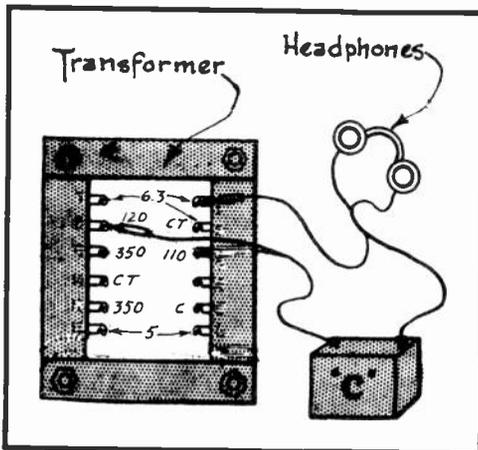

Fig. 4
HEADPHONES CAN BE USED IN PLACE OF THE VOLTMETER, AS SHOWN IN FIGURE 4, AND THE RESULTS AS OBTAINED WITH THIS EXPERIMENT SHOULD CORRESPOND WITH THOSE OBTAINED IN THE PREVIOUS EXPERIMENT. THAT IS, ACROSS THOSE CONNECTIONS WHERE THE VOLTMETER INDICATED BATTERY VOLTAGE, YOU SHOULD NOW HEAR A DISTINCT "CLICK" IN YOUR HEADPHONES, BUT NONE WHERE THERE IS NO CIRCUIT CONTINUITY.
10. - WHY IS IT THAT A "CLICK" IS HEARD IN THE HEADPHONES WHEN TESTING THRU A GOOD TRANSFORMER WINDING, ACCORDING TO THE METHOD ILLUSTRATED IN FIG. 4 OF THIS LESSON?